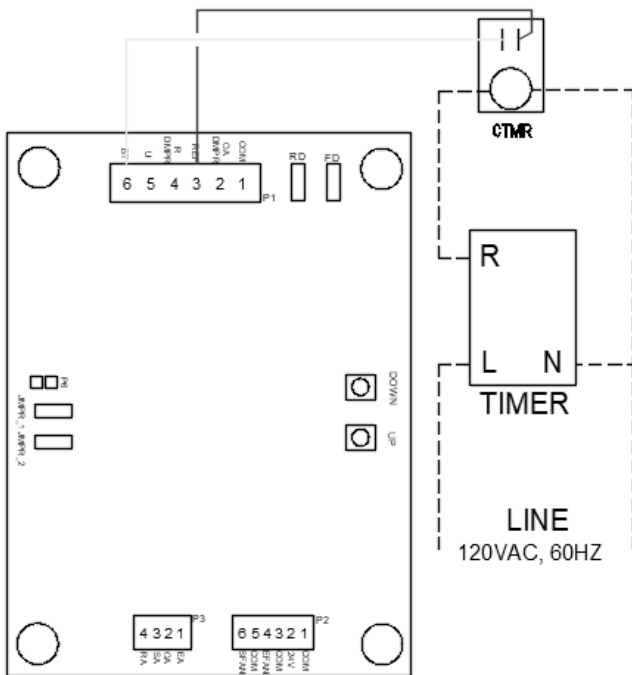

Figure 30 - Version 2 (120V Digital Timer Connection)
6. **FIGURE 30 - Version 2 (120V Digital Timer Connection).**